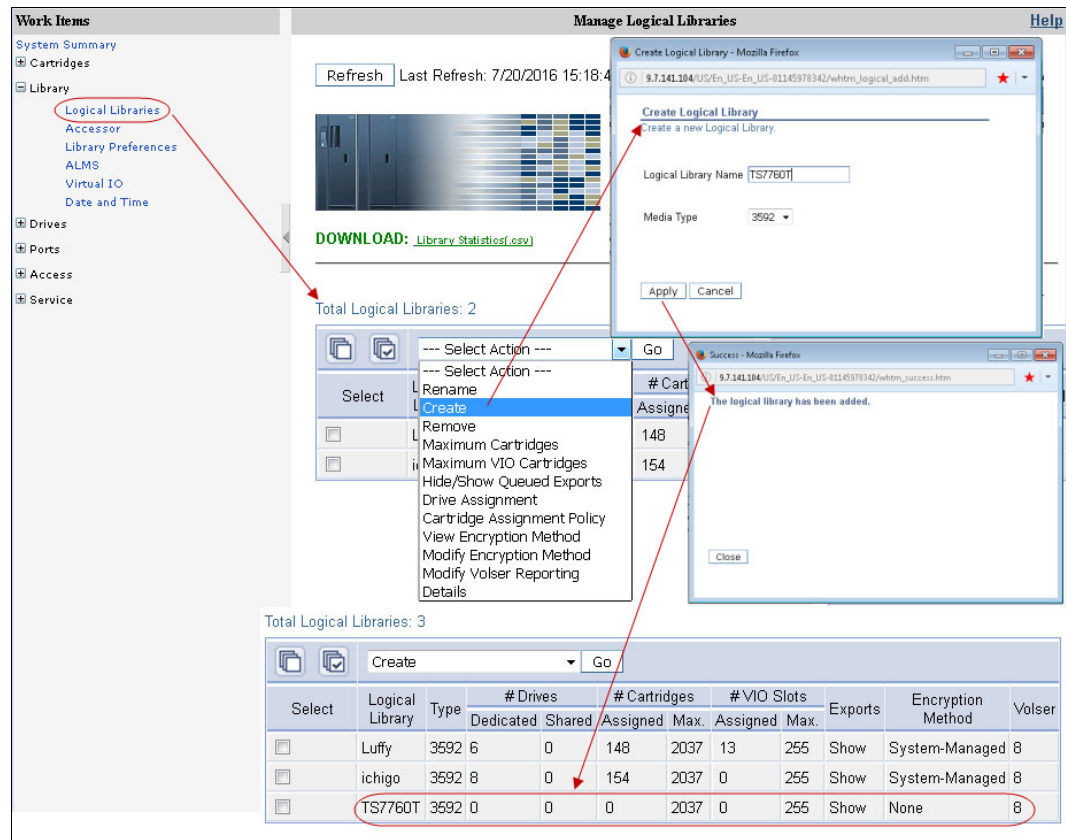

Figure 9-150 Creating a Logical Library with the TS3500 tape library
4. After the logical library is created, you can display its characteristics by selecting **Library** → **Logical Libraries** under work items on the left side of the window. Figure 9-150 shows a summary of the screens in the Create logical library sequence.